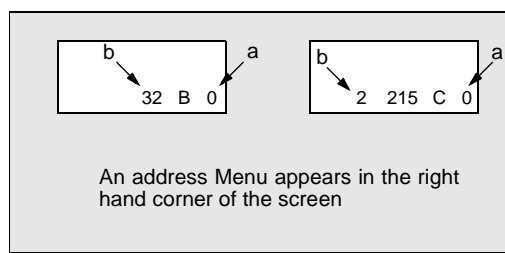

Figure 20. **Serviceman Mode Menu Adjustments.**
**Note:** Only the applicable settings for the Receiver serviced will be available (See **a** in Fig. 20).
1. Press **Channel Up/Down** on the **Remote Control** to select one of the available Service Adjustments (a in Fig. 20).
**Note:** Write Down the original value set (**b** in Fig. 20) for each address before modifying anything. It is easy to erroneously adjust the wrong item.
2. Press **Volume Up/Down** on the **Remote Control** to adjust the level of the selected Service Adjustment (**b** in Fig. 20).
1. Press Channel Up/Down on the Remote Control to select one of the available Service Adjustments (a in Fig. 20).
**Note:** Write Down the original value set (b in Fig. 20) for each address before modifying anything. It is easy to erroneously adjust the wrong item.
2. Press Volume Up/Down on the Remote Control to adjust the level of the selected Service Adjustment (b in Fig. 20).
1. Press **Channel Up/Down** on the **Remote Control** to select one of the available Service Adjustments (**a** in Fig. 20).
*Note: Write Down the original value set (b in Fig. 20) for each address before modifying anything. It is easy to erroneously adjust the wrong item.*